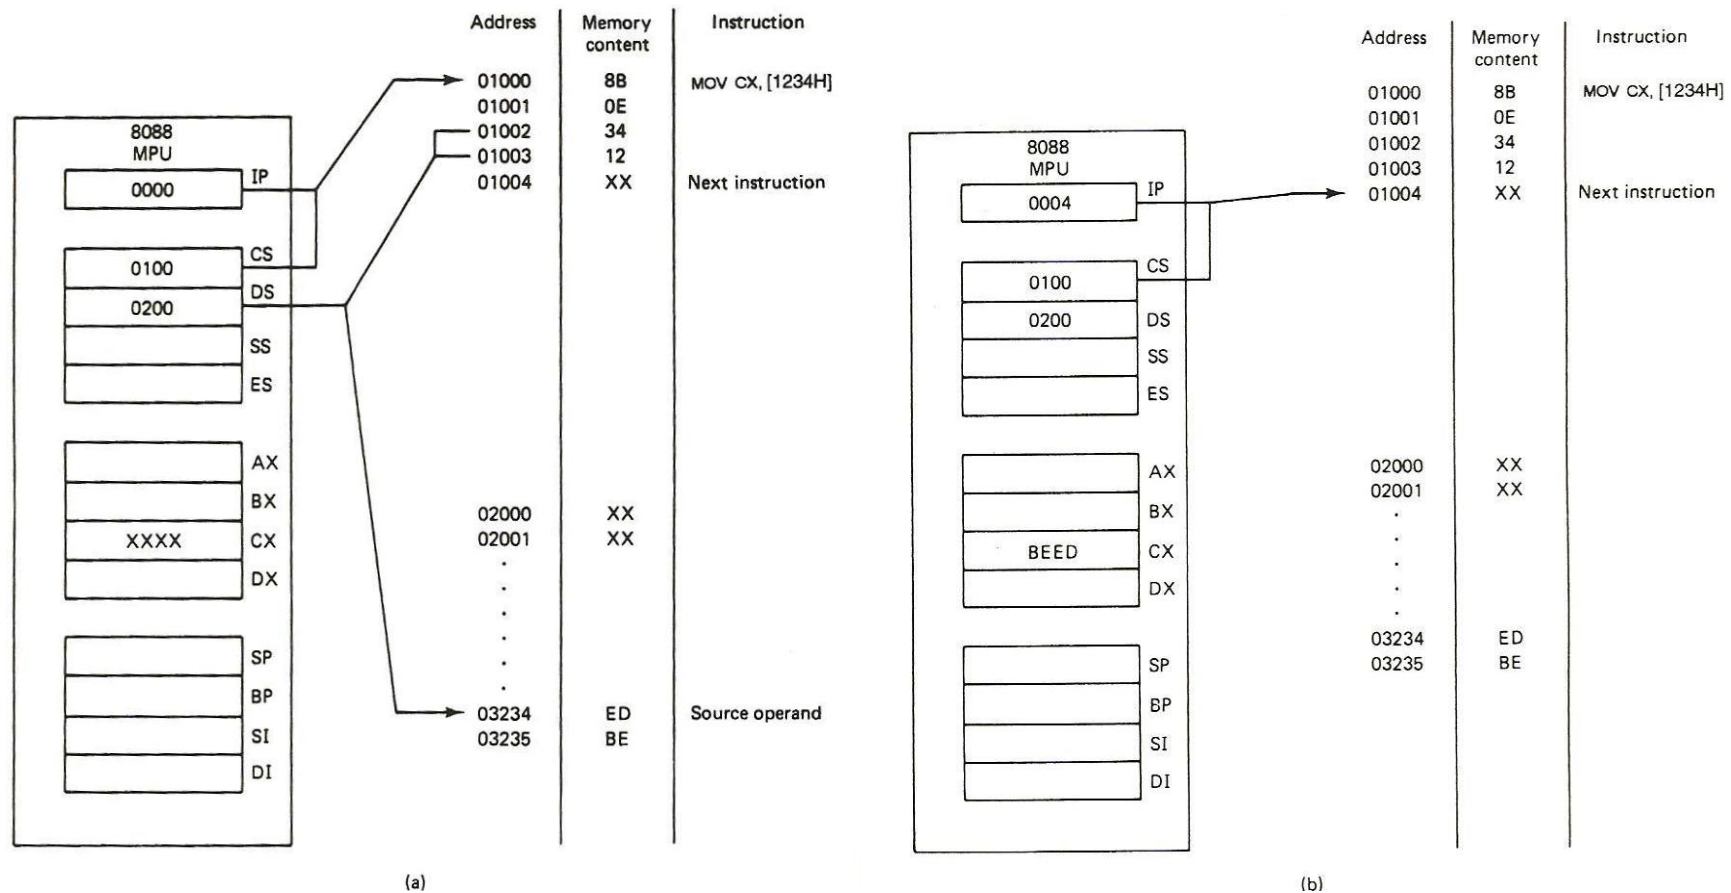

Fig 4 (a) before fetching and execution (b) after execution
3.3.1 Direct addressing: the value of the effective address is encoded directly in the instruction. Fig 4 below shows the memory and registers before and after the execution of instruction: